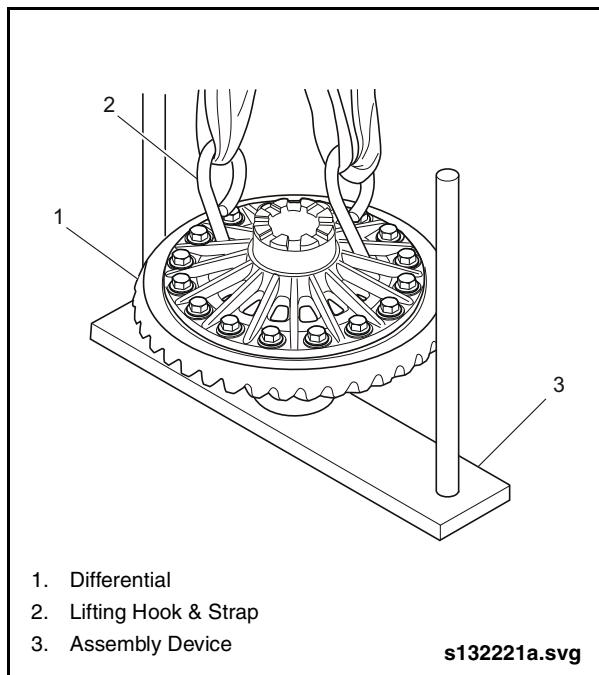

Fig. 2-57: Positioning Differential on Assembly Device
3. Attach Hooks and Lifting Strap (Items 84 and 62 from Special Tools List) to differential and hoist into position onto assembly device. See “Fig. 2-57: Positioning Differential on Assembly Device” on page 52.